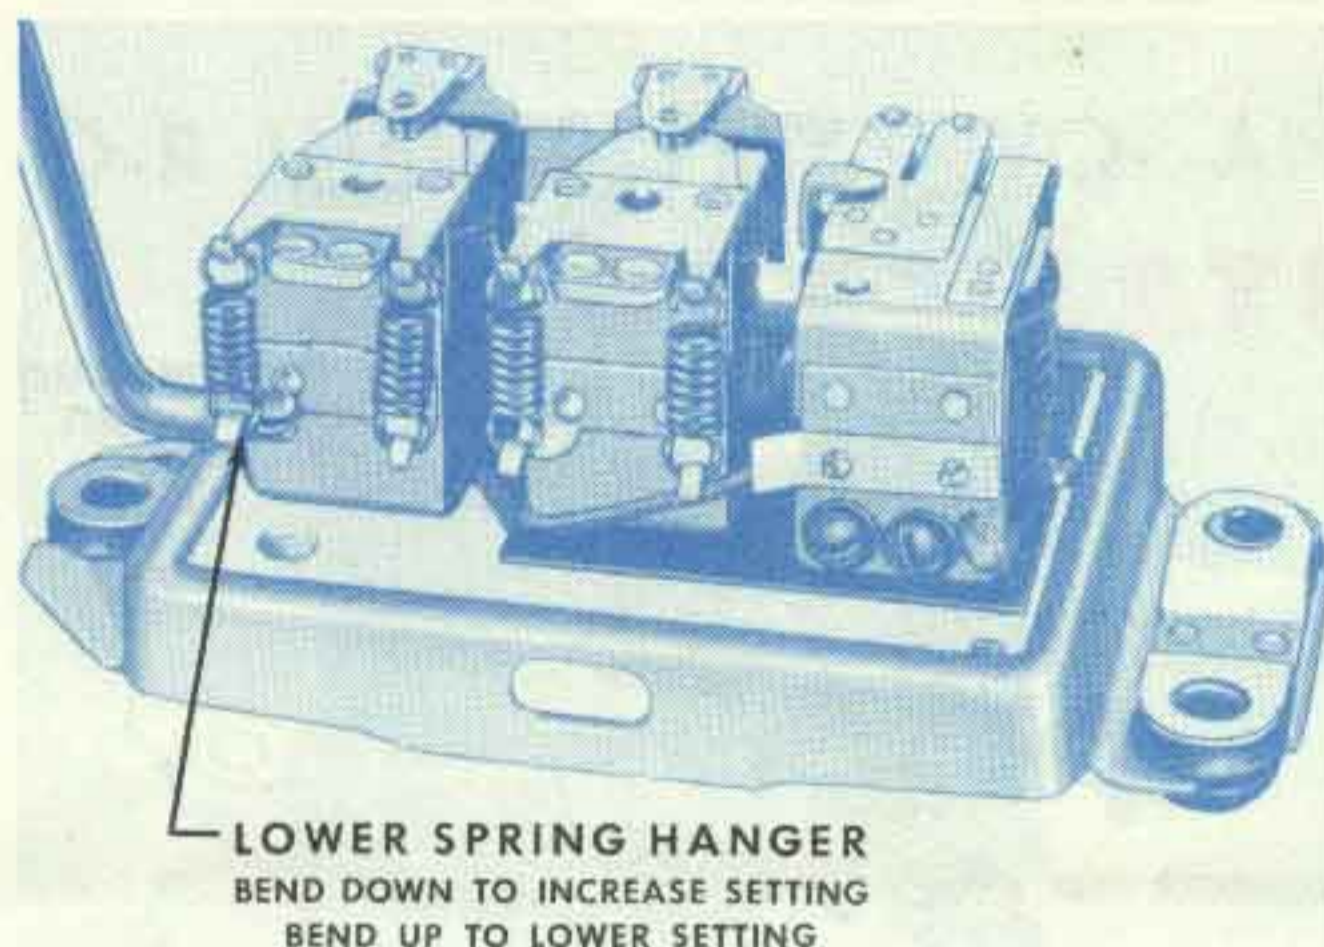
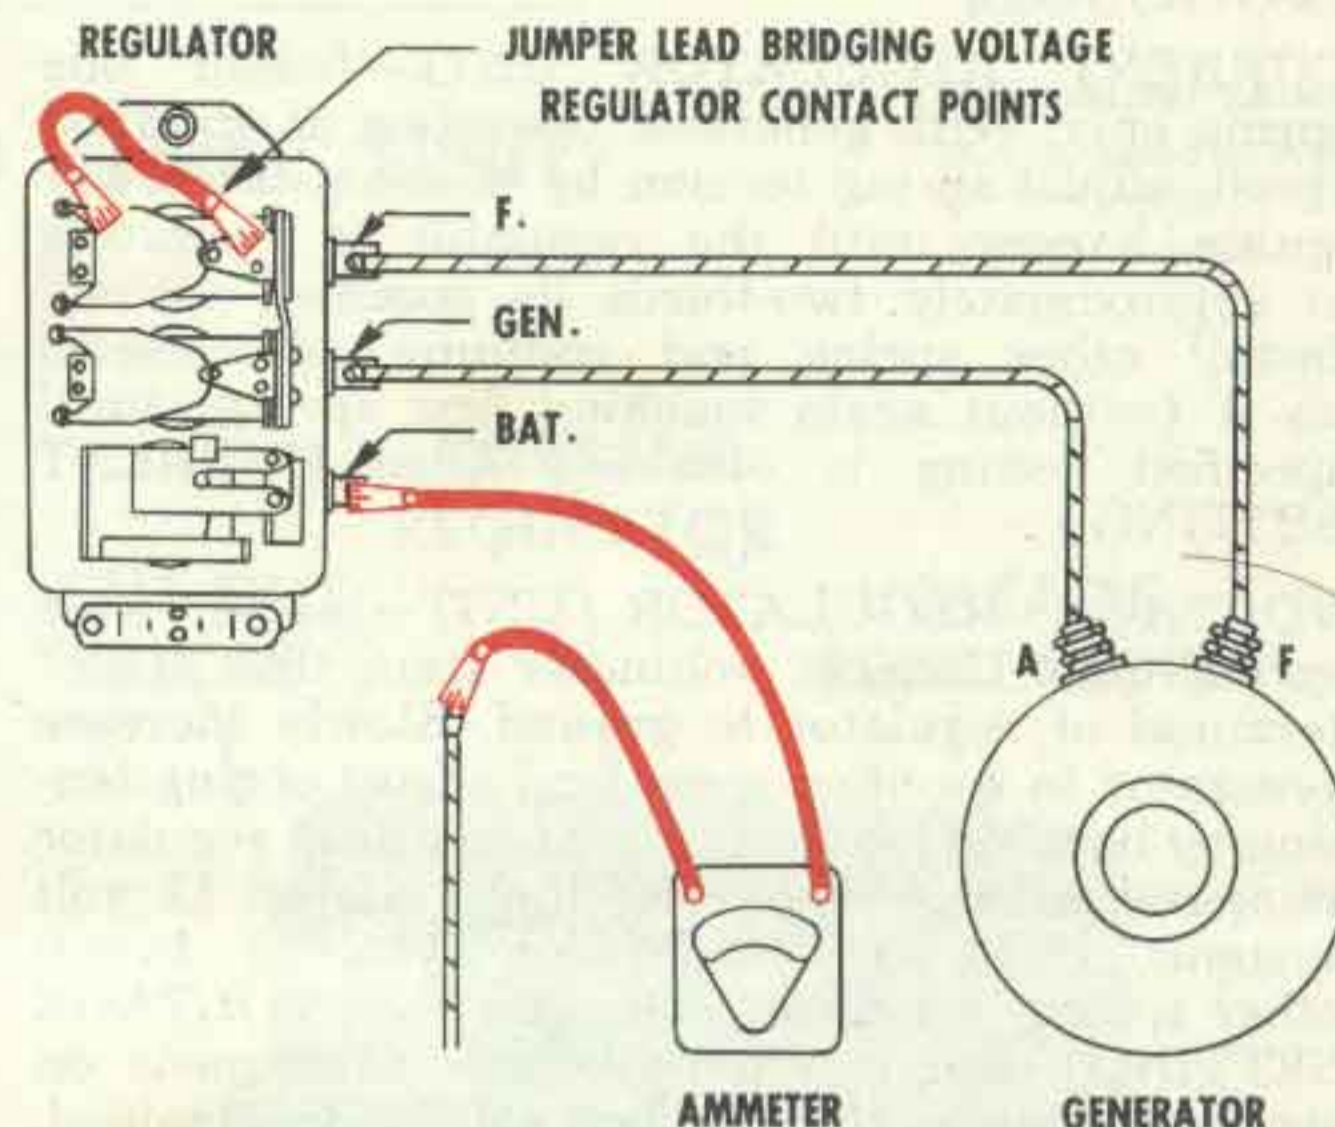

Figure 13—Adjusting voltage regulator setting.
Figure 14—Ammeter and jumper lead connections for checking current regulator setting by the jumper lead method. Ammeter leads and jumper lead shown in red.
To adjust, bend the lower spring hanger of one spring (Fig. 13). Bend down to increase the voltage setting, or up to lower the setting. Confine adjustment to one spring only. Some units have one light and one heavy spring and on these, adjustment should be normally confined to the light spring only. If the unit is badly out of adjustment, refer to section headed **REGULATOR SPRING REPLACEMENT**.
**CURRENT SETTING**—To check the current regulator setting, the voltage regulator must be prevented from operating. Three methods of preventing voltage regulator operation are available. Regardless of the method used, an ammeter must be connected into the charging circuit at the regulator "BAT" terminal (Fig. 14). The three methods are as follows:
1. **JUMPER LEAD METHOD**—Remove the regulator cover and connect a jumper lead across the voltage regulator contact points (Fig. 14). Turn on lights and accessories to prevent high voltage during the test. With generator operating at specified speed, and with regulator at operating temperature, note the current setting. Adjust by bending the lower spring hanger of one spring down to increase the current setting or up to lower the setting (see Fig. 13). Confine adjustment to one spring only. If the unit is badly out of adjustment, readjust as explained under **REGULATOR SPRING REPLACEMENT**.